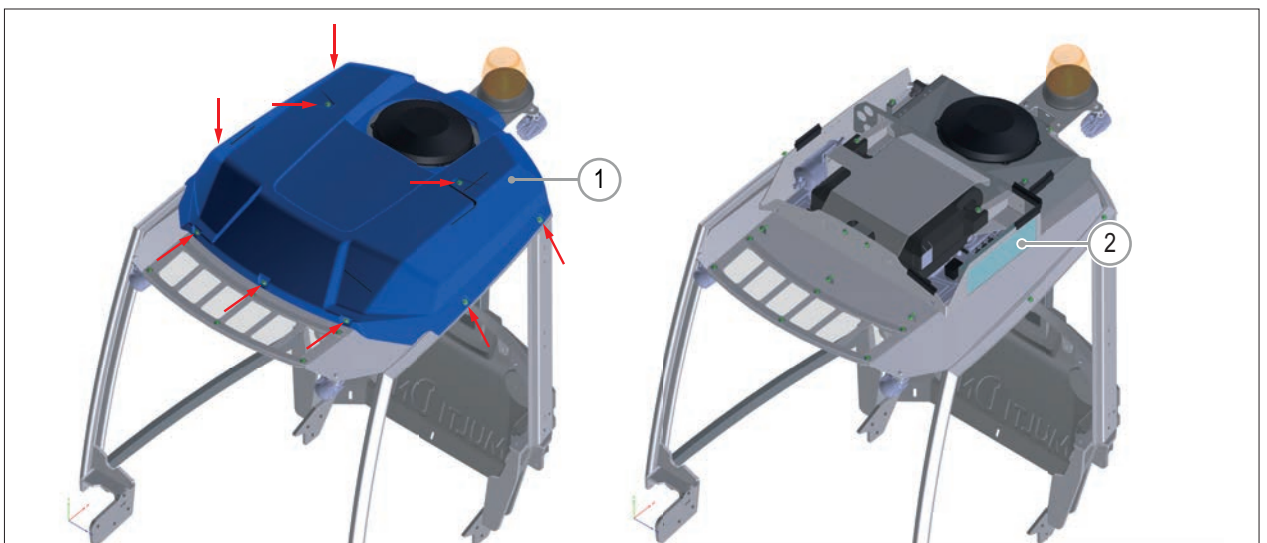

FIG. 51
- 2) Remove the top panel (FIG. 51 - Rif. 1), by loosening the screws that secure it to the frame.
- 3) Remove the air filter (FIG. 51 - Rif. 2) by pulling the top side.